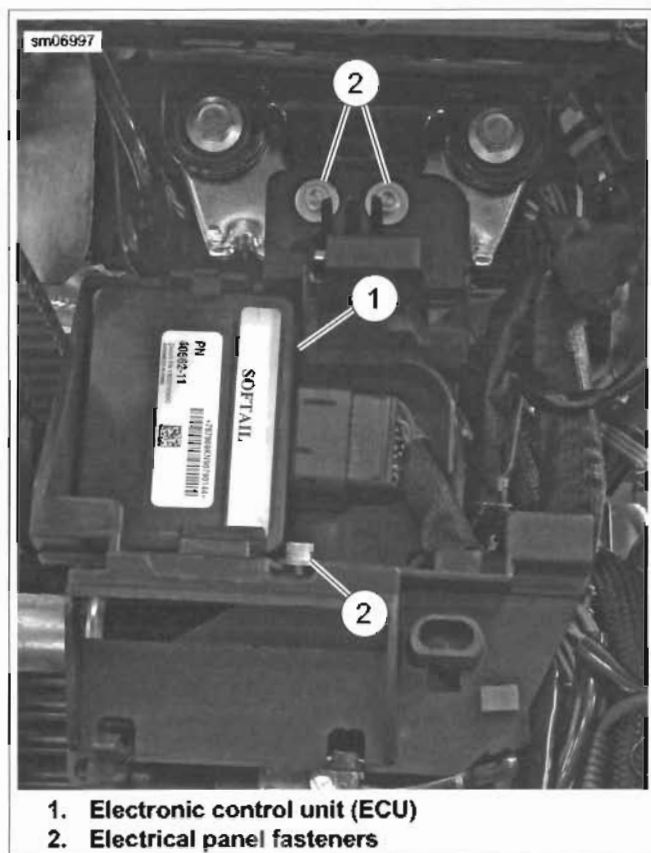

Figure 2-69. Electrical Panel
6. See Figure 2-69. Detach electronic control unit (ECU) (1) from electrical panel and remove electrical connector.
1. See Figure 2-69. Connect ECU connector and install ECU (1) onto electrical panel.